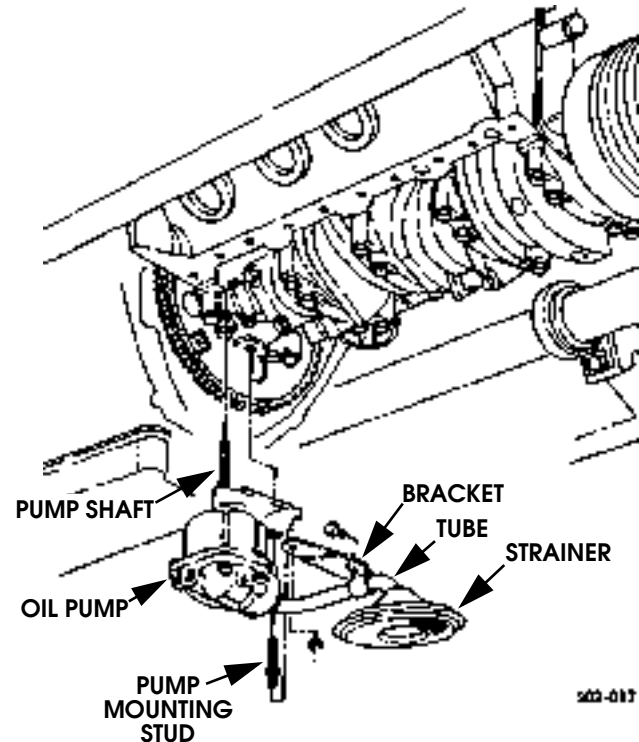

Figure 2-31: Oil Pump Mounting
5. Remove nut that secures tube bracket to oil pump mounting stud (Figure 2-31). Then rotate bracket off stud.
6. Remove oil pump mounting stud (Figure 2-31).